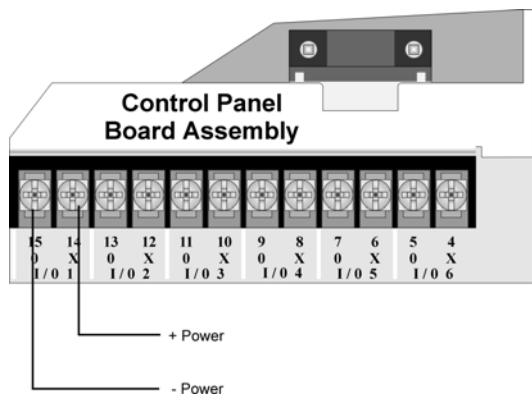

Figure 5: Flexput Auxiliary Power Output
1. Connect the aux power wires to the Flexput terminals using “X” terminals as positive, and “O” terminals as negative power. See Figure 5.